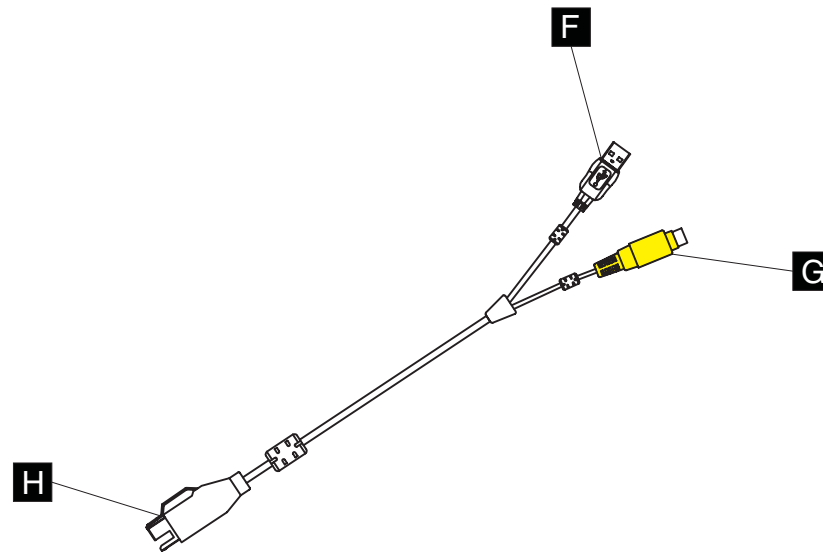

Figure 11. AnyPlace POS cable connectors
- E** The AnyPlace POS cable connector, which connects the AnyPlace POS Hub to the AnyPlace Kiosk (or other host system unit) and has a positive retention (latching) connector. At the kiosk or host system unit end, the AnyPlace POS cable has two connectors as shown in Figure 11 on page 19:
Note: Plugs **F** and **G** in Figure 11 must remain connected while the IBM AnyPlace Kiosk and hub are powered on. Removing the USB hub (**E**) will shut off the kiosk.